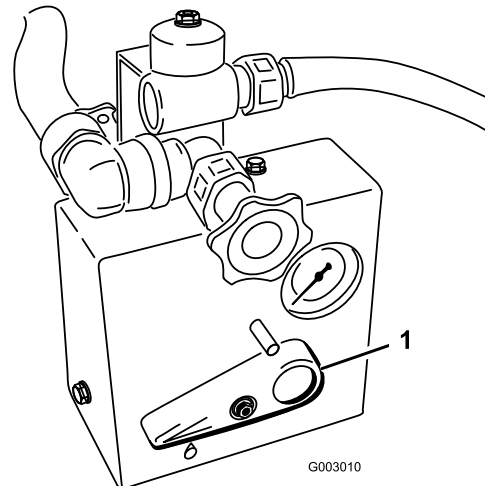

Figure 21
- Move the control handle counter-clockwise, pointing rearward (Figure 21).